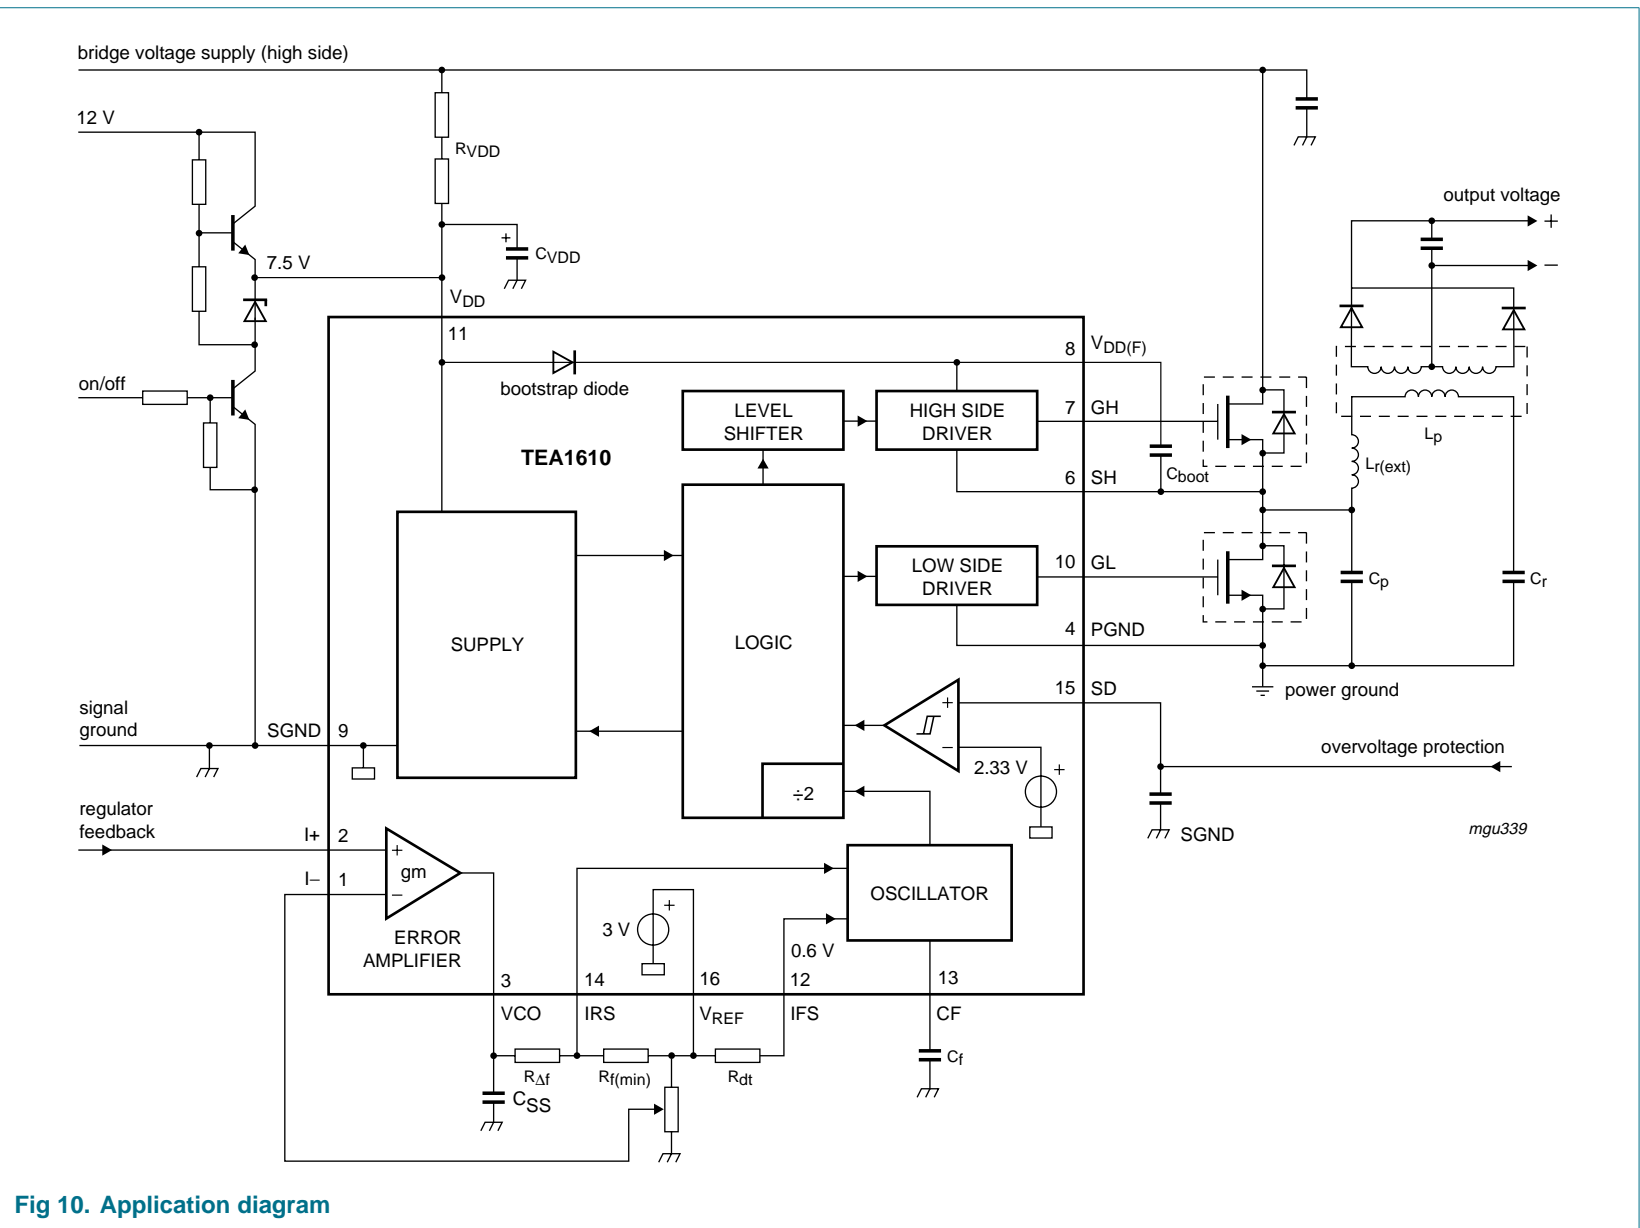

Fig 10. Application diagram
- [1] It is recommended that a 100 nF capacitor be placed as close as possible to the V_{DD} pin (as indicated in Figure 10, and in the application note).
All voltages are referred to the ground pins which must be connected externally; positive currents flow into the IC; $V_{DD} = 13\text{ V}$ and $T_{amb} = 25\text{ °C}$; tested using the circuit shown in Figure 10, unless otherwise specified.
All voltages are referred to the ground pins which must be connected externally; positive currents flow into the IC; $V_{DD} = 13\text{ V}$ and $T_{amb} = 25\text{ }^\circ\text{C}$; tested using the circuit shown in Figure 10, unless otherwise specified.
All voltages are referred to the ground pins which must be connected externally; positive currents flow into the IC; $V_{DD} = 13\text{ V}$ and $T_{amb} = 25\text{ }^{\circ}\text{C}$; tested using the circuit shown in Figure 10, unless otherwise specified.
An application example of a zero-voltage switching resonant converter application using TEA1610 is shown in Figure 10. In the off-mode the V_{DD} voltage is pulled below the stop level of 9.4 V by the 7.5 V Zener diode and the half-bridge is not driven. In the on-mode the TEA1610 starts-up with a high-ohmic bleeder resistor. After passing the level for start of oscillation, the TEA1610 is in normal operating mode and consumes the normal supply current delivered by the 12 V supply. The dead time is set by R_{dt} and C_f . The minimum frequency is adjusted by $R_{f(min)}$ and the frequency range is set by $R_{\Delta f}$. The output voltage is adjusted with a potentiometer connected to the inverting input of the error amplifier and is regulated via a feedback circuit. The shut-down input is used for overvoltage protection. To prevent interference, filter capacitors can be added on pins IFS, IRS and V_{REF} . The maximum value of each filter capacitor is 100 pF.